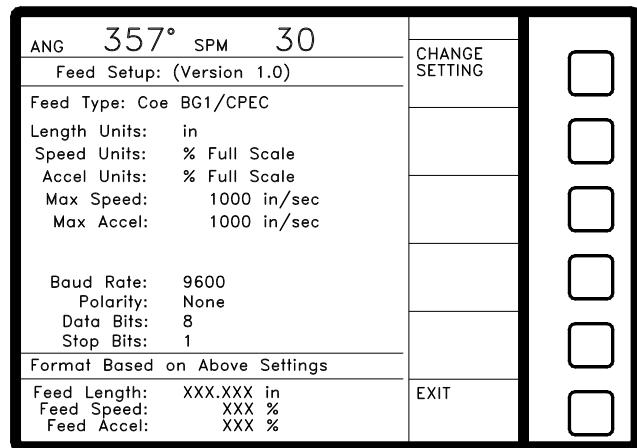

Figure 3.4: Example Feed Configuration Screen
- ◆ Hit the “CONFIG TASK” softkey and a screen similar to Figure 3.4 should appear.
Length Units - This is the unit in which to enter feed length values. Using the arrow keys, position the highlight cursor on this field and hit the “CHANGE SETTING” softkey until the desired length unit appears. This can be inch or millimeter. Note that this does not have to match the units the feed uses - the OmniLink will do the required unit conversion if necessary. This means, for instance, that the feed can take its units in inches, but feed length can be entered in millimeters on the OmniLink screen. The entered number will then be converted to inches and sent to the feed. Near the bottom of the screen (see example in figure 3.4), is a sample format for length. It shows the number of digits, decimal place, and unit based on the choice in this field.
Speed Units - This is the unit in which to enter feed speed values. Using the arrow keys, position the highlight cursor on this field and hit the “CHANGE SETTING” softkey until the desired speed unit appears. This can be in in/sec, in/min, mm/sec, % full scale, or unitless. The unitless setting will pass whatever number is entered straight to the feed with no conversions. Any other setting will cause the necessary conversion to be performed on the number before sending it to the feed. For instance, a feed may take speed in in/sec. If this setting is set for mm/sec, then a feed speed number entered on the OmniLink feed screen will be converted to in/sec before sending it to the feed. Near the bottom of the screen (see example in figure 3.4), is a sample format for speed. It shows the number of digits, decimal place, and unit based on the choice in this field.
necessary conversion to be performed on the number before sending it to the feed. For instance, a feed may take speed in in/sec². If this setting is set for mm/sec², then a feed acceleration number entered on the OmniLink feed screen will be converted to in/sec² before sending it to the feed. Near the bottom of the screen (see example in figure 3.4), is a sample format for acceleration. It shows the number of digits, decimal place, and unit based on the choice in this field.